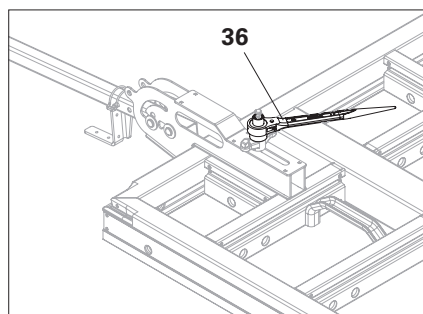

Fig. A14.03
For assembly, the Ratchet MX 18 (36) can also be used. (Fig. A14.03)